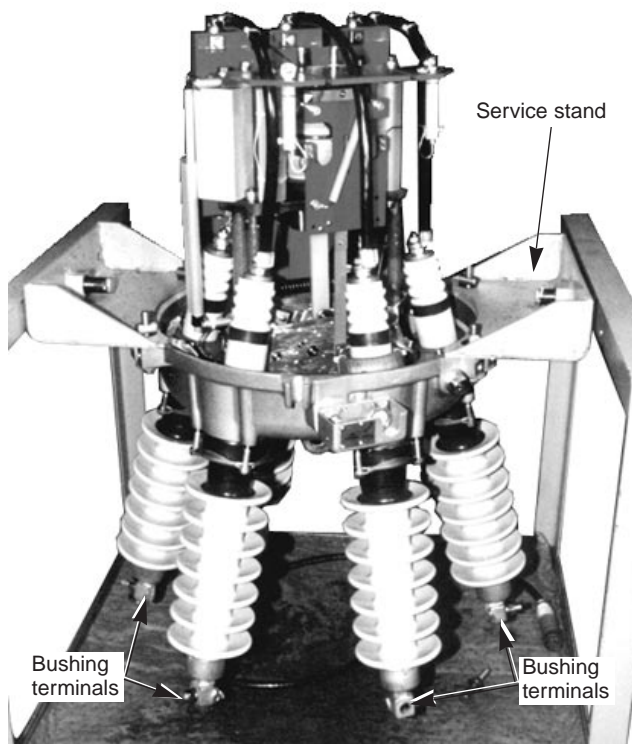

Figure 4.
3. Invert the head assembly (refer to Figure 4) and if a service stand is not available, the head assembly will have to be gently set directly on the six bushing terminals.